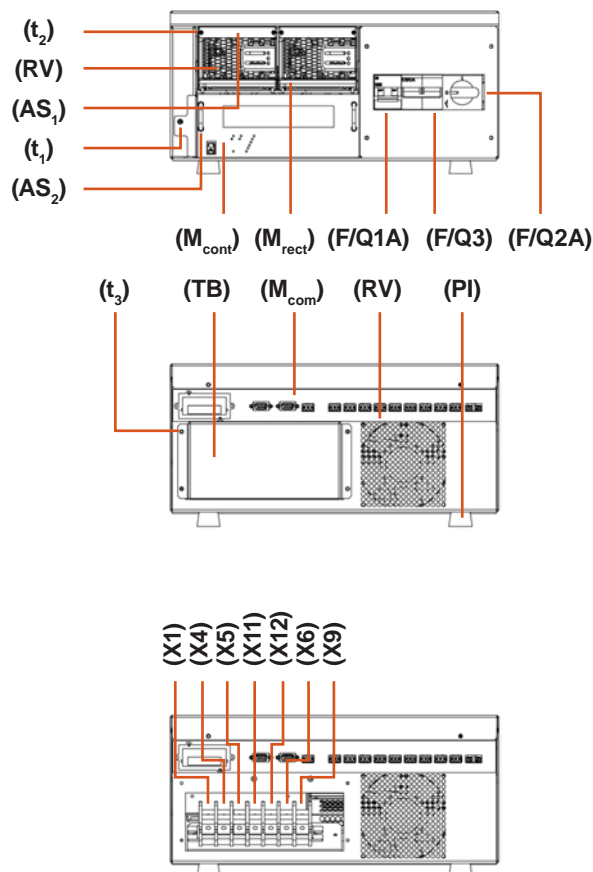

Fig. 3. Table top case view.
- Table top case system, which has separators parts -feet- in its base (See Fig. 3).